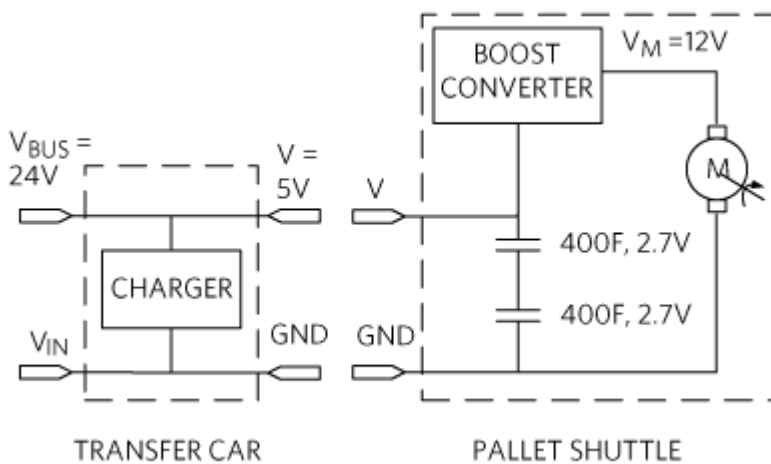
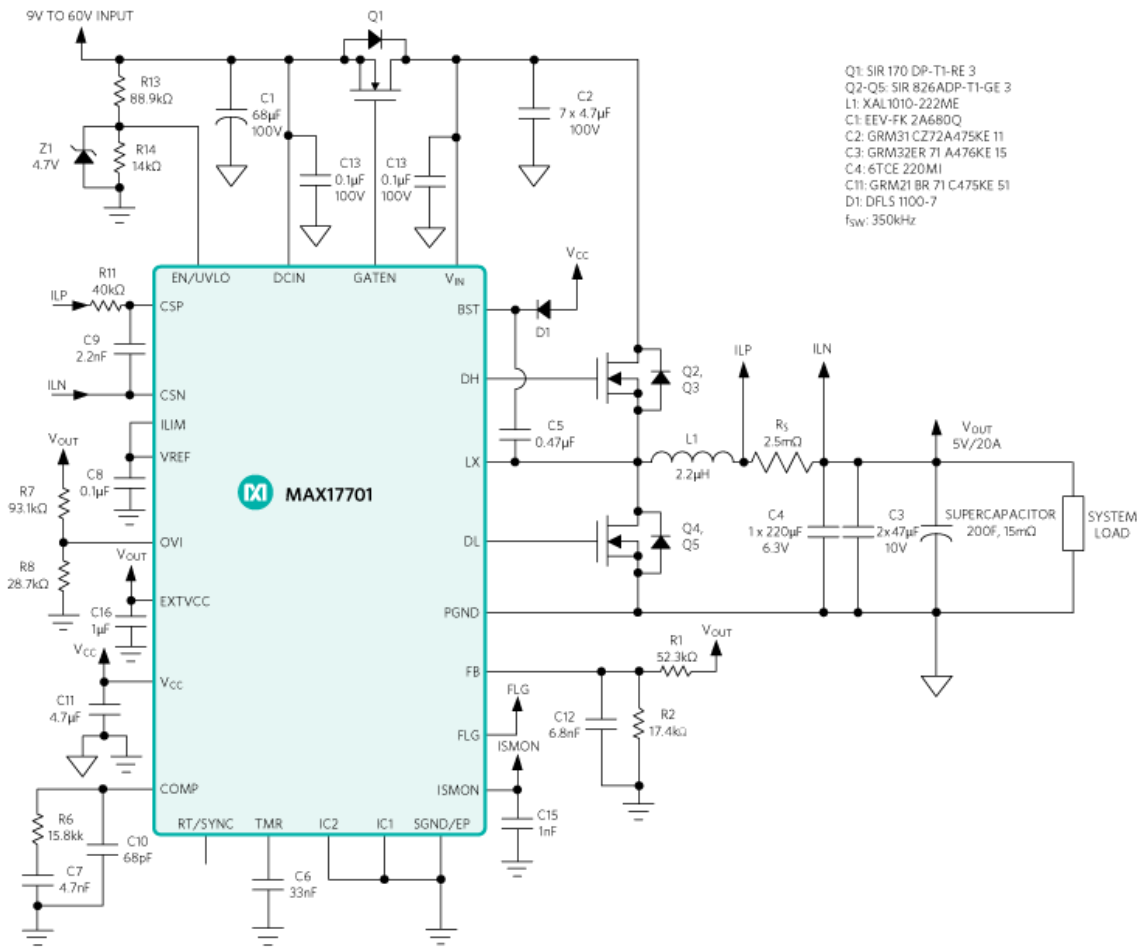

Figure 2. Supercapacitors power
Figure 4. 5V/20A supercapacitor charger with input short-circuit protection.
**Figure 2** illustrates the power system based on two supercapacitors in series each rated at 400F and 2.7V. The supercapacitor ensemble is on board the pallet shuttle, while the charger is already on board the transfer car. The charger draws power from  $V_{BUS} = 24V$ . During the docking time in between shuttle flights, it charges the 200F supercapacitor ensemble (C) at a voltage  $V = 5V$ , storing a charge:
As an example, the MAX17701 is a high-efficiency, high-voltage, synchronous, step-down, supercapacitor charger controller designed to operate over an input-voltage range (VDCIN) of 4.5V to 60V. The output voltage is programmable from 1.25V up to (VDCIN - 4V). The device uses an external N-MOSFET to provide input supply-side ORing function, preventing a supercapacitor discharge back to the input. **Figure 4** shows a 24VIN/5VOUT/20A application circuit for the pallet shuttle application discussed earlier in Figure 2.